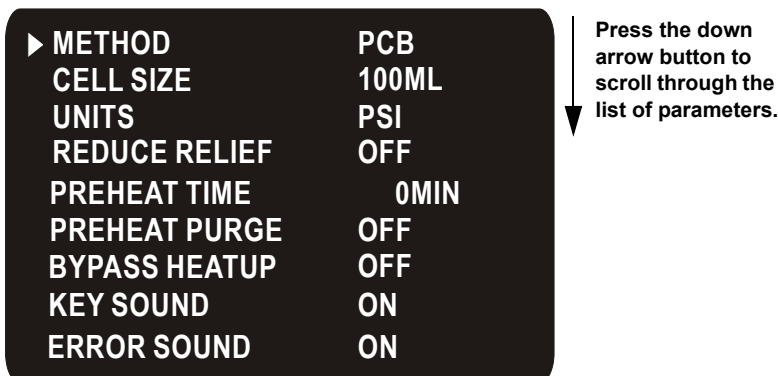

Figure B-9. Setup Screen (All Parameters Shown)
1. On the **MENU** screen, press an arrow button to move the cursor to **SETUP**, and then press **ENTER** to display the **SETUP** screen (see Figure B-9). All parameters do not fit on one screen. To view additional parameters, press the down arrow button.